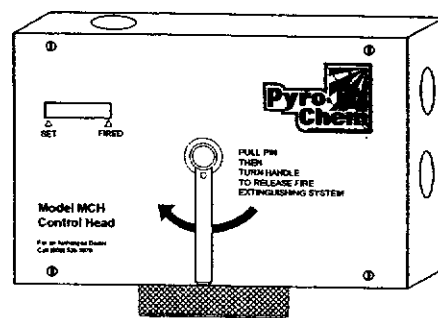

Figure 2-4. Mechanical Control Head.
The Model MCH mechanical control head is a fully mechanical control head which can be connected to the PCL-240/350/550 cylinder valve. This control head will support a fusible link detection system, a remote mechanical pull station (Model RPS-M), and a mechanical or electric gas shut-off valve. A miniature electric switch (Model MS-SPDT or MS-DPDT) can be ordered separately and field installed. It is equipped with a local manual control handle that allows for mechanical system actuation. Operation of the local manual control requires removing the pull pin and rotating the handle clockwise. The Model MCH control head can actuate a maximum of three (3) cylinders. See Figure 2-4.